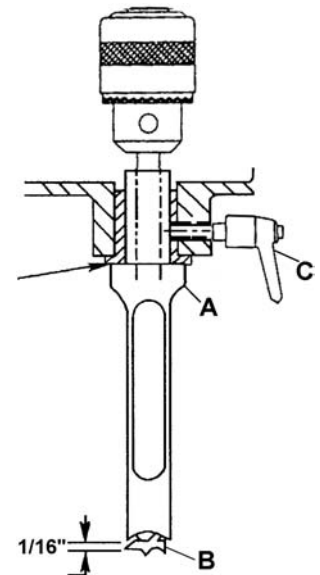

Figure 17
Push the chisel (A) Fig.17 up as far as possible into head, then lower chisel approximately 1/16". This setting is only temporary, the chisel will need to be repositioned against the head once the bit is secure in place. Tighten lock knob (C) to hold chisel in position. Push the drill bit (B) up through the chisel opening making sure that drill bit bottoms out in chisel before bottoming out in chuck. Secure the bit in the chuck using the chuck key supplied. Loosen lock knob (C) and push chisel up all the way into the head and retighten lock knob. Refer to Fig.17.